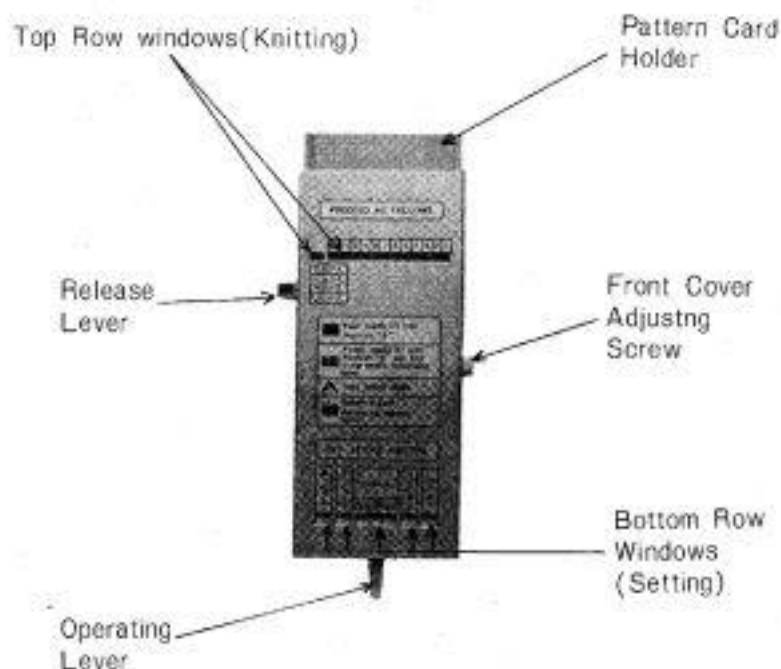

Fig. 65
2. Pattern Master—Symbols and Abbreviations: Fig. 65
- Red**When a row of red block symbols appears in the numbered window of the Pattern Master this denotes the end of the Pattern. To repeat the Pattern return the card to the starting point by depressing the Release Lever. (Fig. 65)
- a) Select the pattern you want to use, and slide the card into the card holder of the Pattern Master as shown in Fig. 72-a. If the card is slightly out of position, loosen the Front Cover Adjusting Screw - see Fig. 65 - and move the cover slightly up or down to bring the symbols on the card in line with the windows in the Cover.